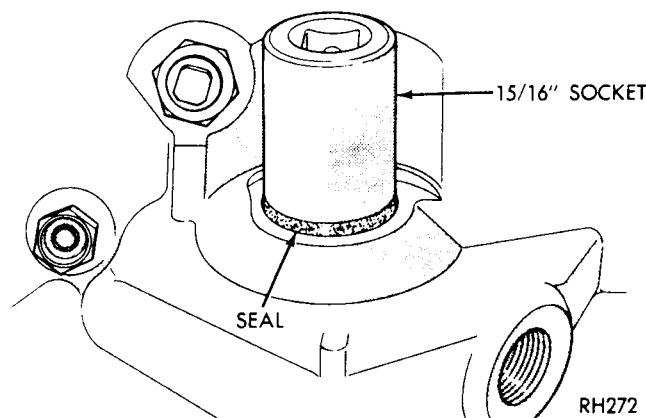

Fig. 13—Install Manual Lever Shaft Seal
(2) Drive a new seal into the case with a 15/16 inch socket and hammer (Fig. 13).